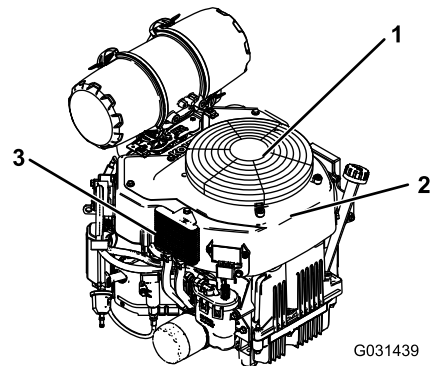

Figure 54
3. Remove the air-intake screen and fan housing (Figure 54).
5. Install the air-intake screen and the fan housing (Figure 54).